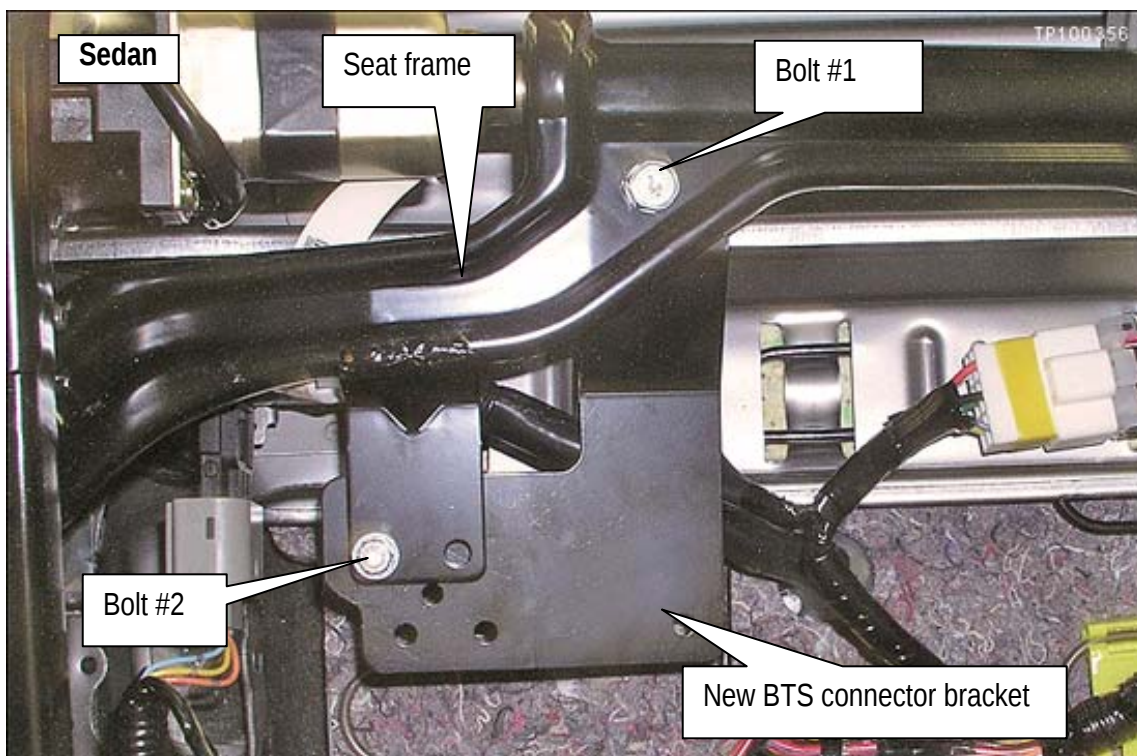

Figure 8
16. **For Sedan Only:** Install the new BTS connector bracket to the seat frame as shown in Figure 8 and torque the bolts: